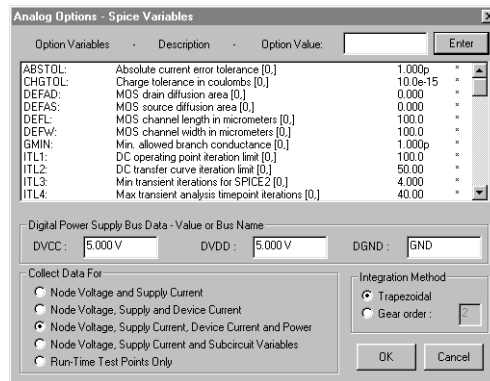

Figure 3.6. The third **Collect Data For** option (selected) lets you measure voltage, current, and power with the Probe Tool.
- 6 Click on the **Analyses Setup** button in the Toolbar, then click the **Analog Options** button to display the dialog box shown in Figure 3.6.